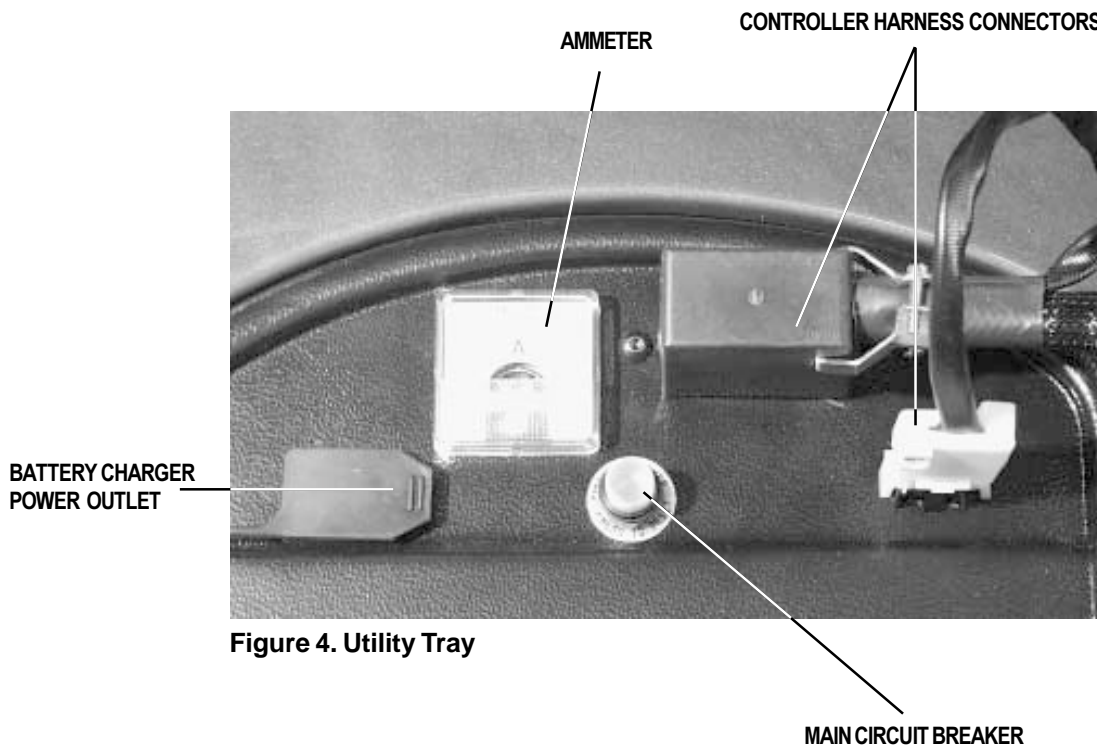

Figure 4. Utility Tray
- **Ammeter:** The ammeter displays the charger's current output in amps. See figure 4. For more information, see IX. "Batteries and Charging."
- **Battery charger power outlet:** This is where the battery charger power cord is to be plugged in. See figure 4. The battery charger power cord is not attached to the unit at all times. See figure 3. For more information, see IX. "Batteries and Charging."
- **Main circuit breaker:** The main circuit breaker is a safety feature built into your Jet 1. See figure 4. When the batteries and the motors are heavily strained (e.g., from excessive loads), the main circuit breaker will trip to prevent damage to the motors and the electronics. If the circuit trips, allow your Jet 1 to "rest" for approximately one minute. Next, push in the circuit breaker reset button, turn on the joystick controller, and continue normal operation. If the main circuit breaker continues to trip repeatedly, contact your authorized Pride provider.
- **Controller harness connectors:** This is where the joystick connects to the motors, the batteries, and the charger. Since your Jet 1 is equipped with a Dynamic controller, there are two connectors on the tray. See figure 4.